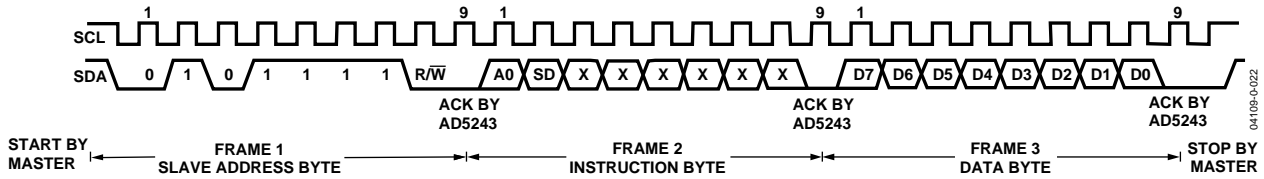
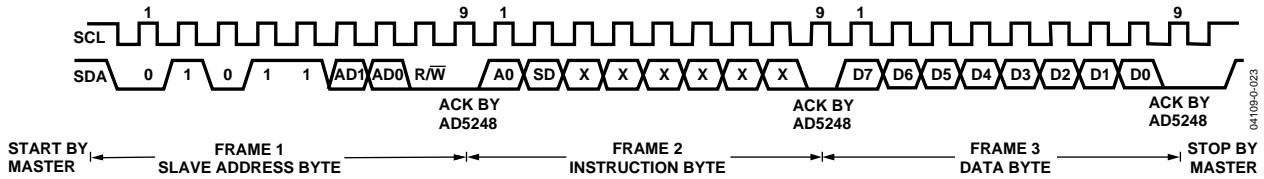
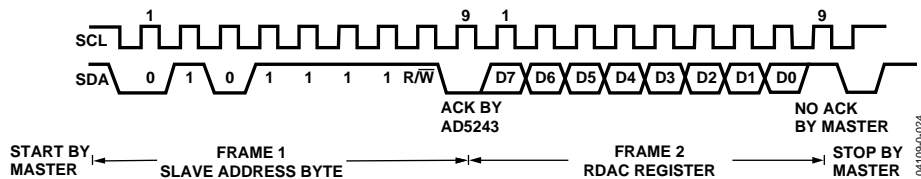
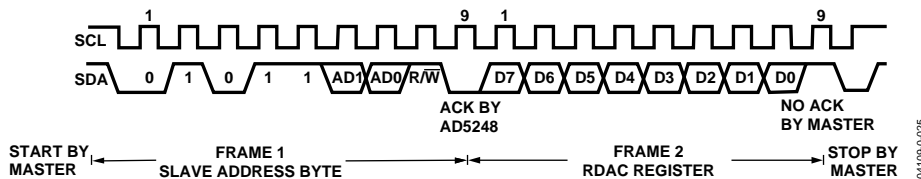

Figure 45. Writing to the RDAC Register—AD5243
Figure 46. Writing to the RDAC Register—AD5248
Figure 47. Reading Data from a Previously Selected RDAC Register in Write Mode—AD5243
Figure 48. Reading Data from a Previously Selected RDAC Register in Write Mode—AD5248
1. The master initiates data transfer by establishing a start condition, which is when a high-to-low transition on the SDA line occurs while SCL is high (see Figure 45). The following byte is the slave address byte, which consists of the slave address followed by an $\overline{R/W}$ bit (this bit determines whether data is read from or written to the slave device). The AD5243 has a fixed slave address byte, whereas the AD5248 has two configurable address bits, AD0 and AD1 (see Figure 10).
SDA line must occur during the low period of SCL and remain stable during the high period of SCL (see Figure 45 and Figure 46).
3. In the read mode, the data byte follows immediately after the acknowledgment of the slave address byte. Data is transmitted over the serial bus in sequences of nine clock pulses (a slight difference with the write mode, where there are eight data bits followed by an acknowledge bit). Similarly, the transitions on the SDA line must occur during the low period of SCL and remain stable during the high period of SCL (see Figure 47 and Figure 48).
Note that the channel of interest is the one that is previously selected in write mode. If users need to read the RDAC values of both channels, they need to program the first channel in write mode and then change to read mode to read the first channel value. After that, the user must return the device to write mode with the second channel selected and read the second channel value in read mode. It is not necessary for users to issue the Frame 3 data byte in write mode for subsequent readback operation. Users should refer to Figure 47 and Figure 48 for the programming format.
4. After all data bits have been read or written, a stop condition is established by the master. A stop condition is defined as a low-to-high transition on the SDA line while SCL is high. In write mode, the master pulls the SDA line high during the 10th clock pulse to establish a stop condition (see Figure 45 and Figure 46). In read mode, the master issues a no acknowledge for the ninth clock pulse (that is, the SDA line remains high). The master then brings the SDA line low before the 10th clock pulse, which goes high to establish a stop condition (see Figure 47 and Figure 48).